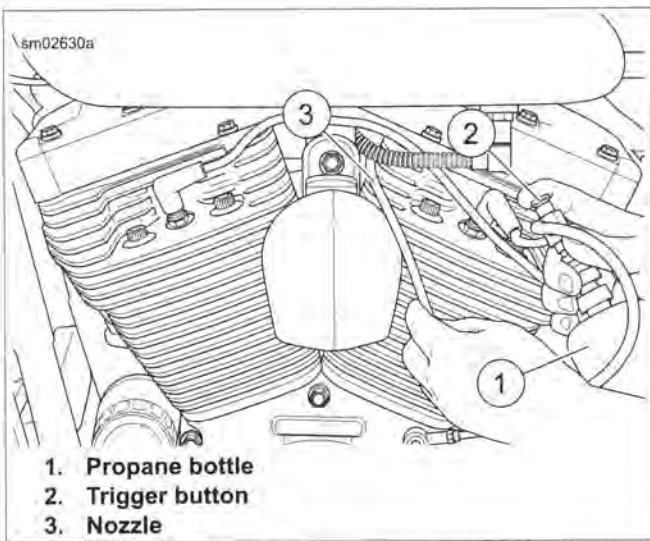

Figure 4-69. Checking for Leaks
2. See Figure 4-69. Aim nozzle (3) toward possible sources of leak such as intake manifold mating surfaces.
3. Press and release trigger button (2) to dispense propane. The tone of the engine changes when propane enters source of leak. Repeat as necessary to detect leak.